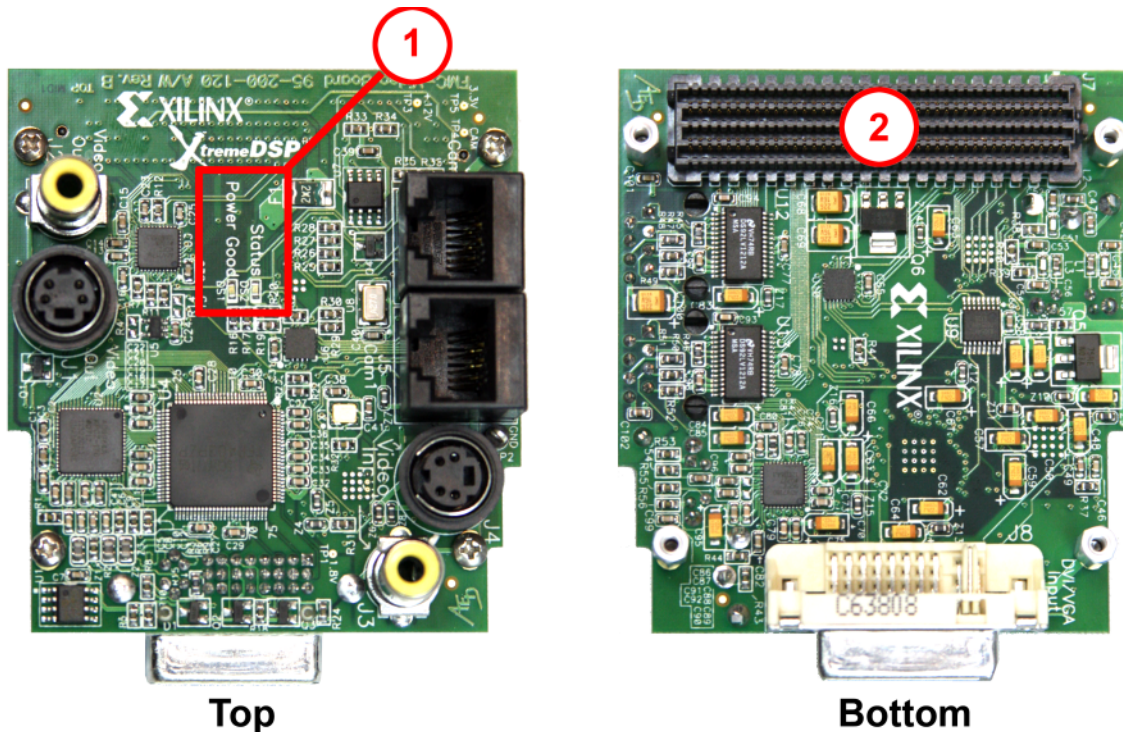

Figure 1-2: FMC-Video Port Diagram (1= Power Good and Status LEDs, 2 = FMC Connector)
6. Screw in the supplied bolts to secure the FMC-Video daughter card to the carrier board. See Figure 1-2.